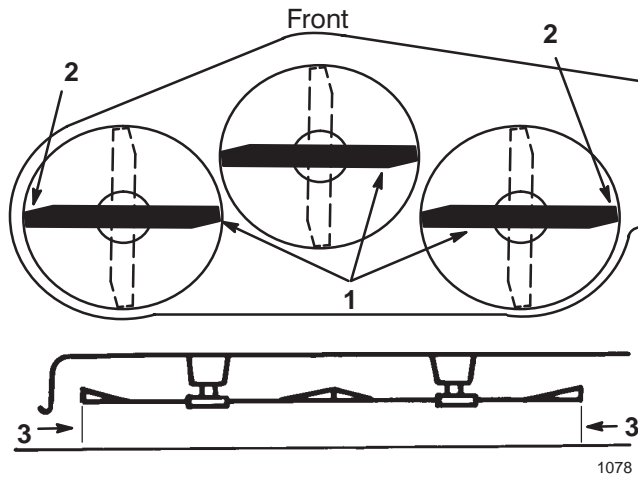

Figure 11
- Carefully rotate the blade(s) side to side (Fig. 11). Measure between the outside cutting edges and the flat surface (Fig. 11). If both measurements are not within $3/16$ in. (5 mm), an adjustment is required; refer to steps 4 and 5.